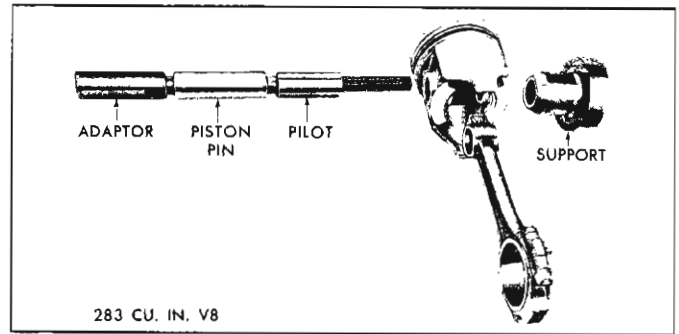

Fig. 92—Piston Pin Assembly Tool Layout
3. Install piston pin on adapter and pilot on puller screw (fig. 92).
8. Check connecting rod clearance between upper half of connecting rod and side of crank pin. This clearance should be .008" to .014" with two rods on each crankpin of crankshaft (fig. 92).